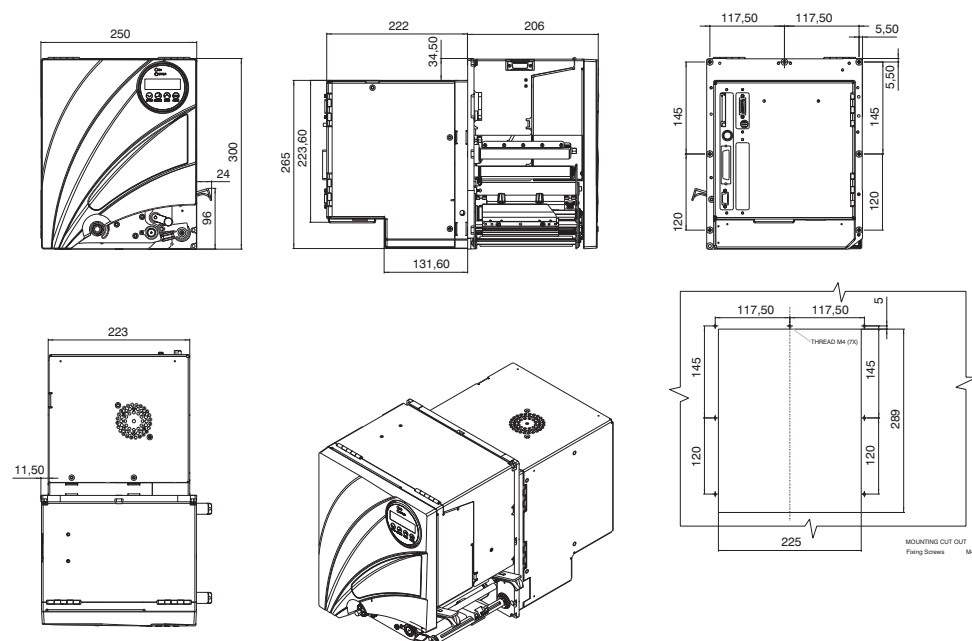

Fig. 2: Measures of the DPM and of the required mounting cutout (right below).
- Mounting cutout matching the measures indicated on Fig. 2: